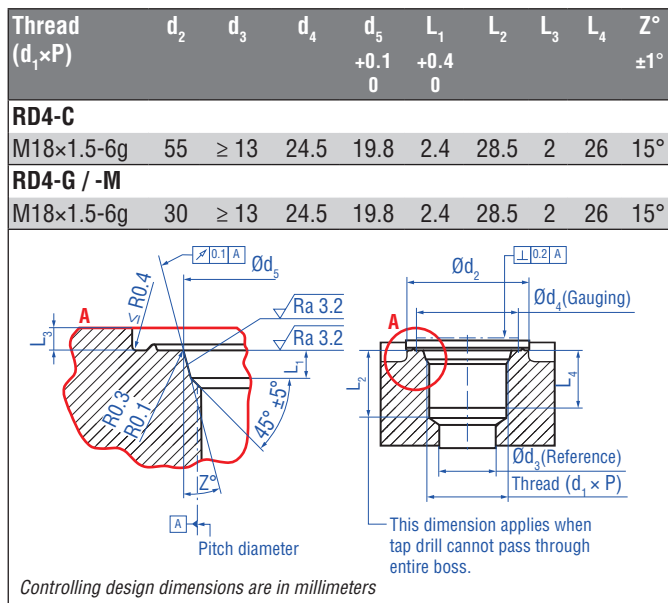

Fig. 18: Notice for metric threaded flange M18×1.5-6g based on DIN ISO 6149-1
3. A sealing by using an O-ring 15.3 × 2.2 mm (0.6 × 0.09 in.) (part no. 401 133) in the undercut. In this case, a screw hole based on ISO 6149-1 (Fig. 18) must be provided. See ISO 6149-1 for further information.